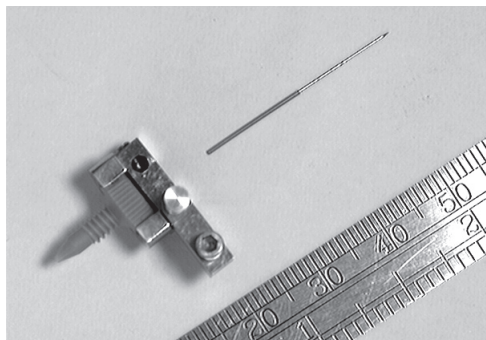

Figure 21
3. Insert a PicoTip inside the sleeve. The tip should have a free fit. (Figure 21)